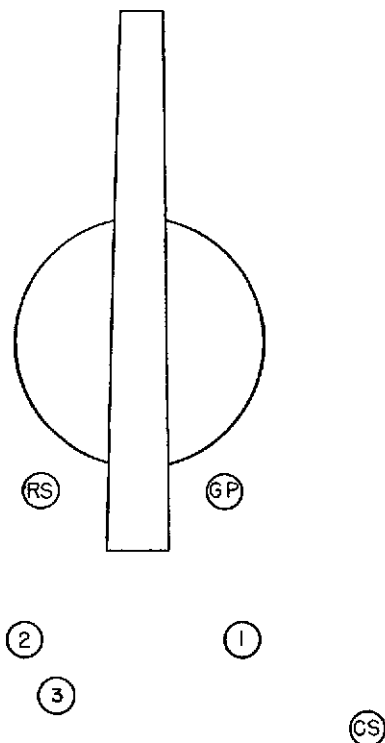

FIGURE 2.—DETAILS, POSTS.
c. He commands: 1 DETAILS, 2. POSTS, when the section arrives in rear of the emplacement and supervises the procurement of equipment. After all details have reached their posts (fig. 2), he commands: **EXAMINE GUN**. He then makes an inspection of the gun, carriage, and other matériel, paying especial attention to the recoil cylinder, firing mechanism, safety devices, and oiling of the various bearings. He receives the reports of the chief of ammunition and of the various details of the gun squad and reports to the officer in charge of the emplacement, "Sir, No. ——— in order," or reports any defects which he is unable to remedy without delay.